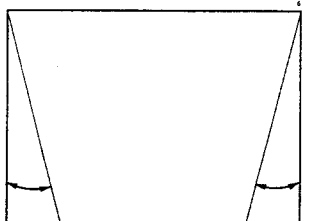

fig. 8
- d) Adjust the Trapezoid 1 to obtain condition as in fig. 8.